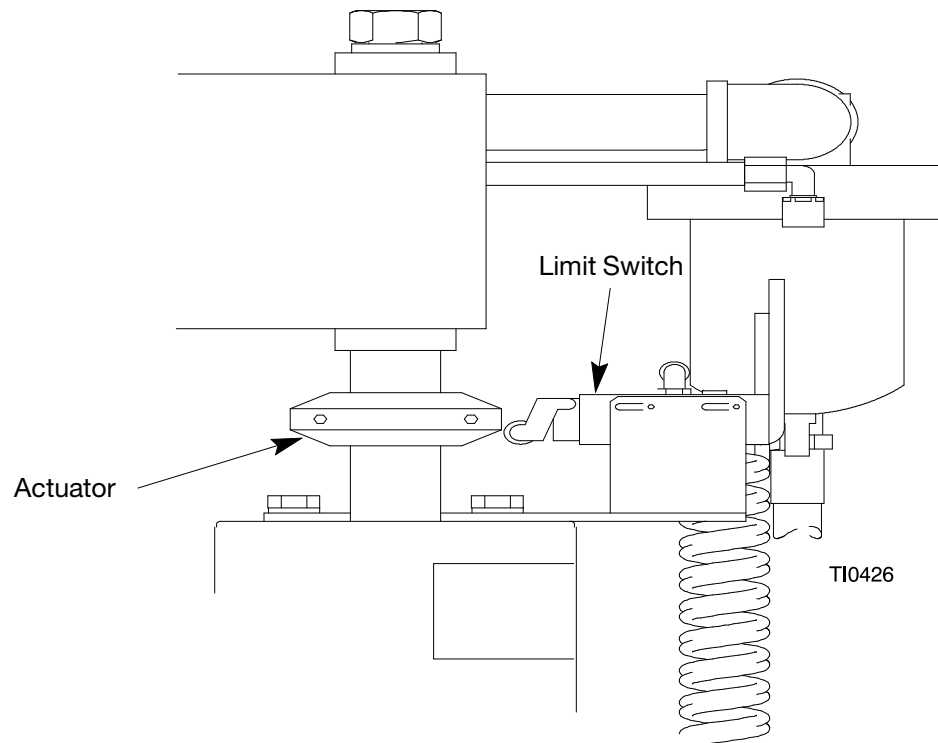

FIG. 18
5. Measure the distance from the mounting bracket (306) to the outer diameter of the limit switch roller to ensure that the new roller is installed in the same position.
6. Remove the fasteners holding the switch to the limit bracket (306). See FIG. 18.